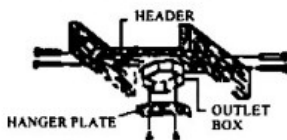

FIGURE 1
1. Use the two screws on the hanger plate or the J-hook to close the outlet box as shown in Fig. 1.